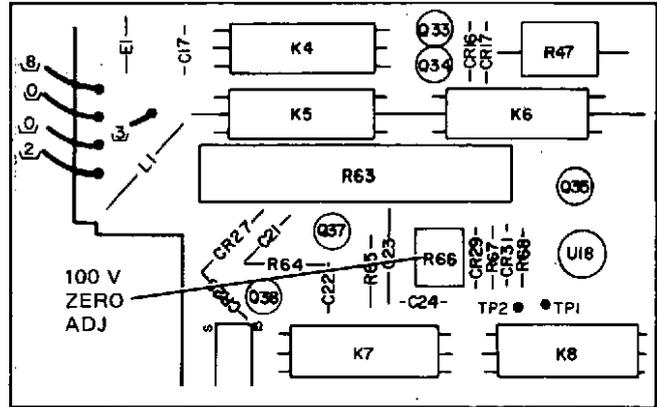

Figure 5-1. 100 Volt Zero Adjustment.
c. Set the test DVM to measure dc volts (autorange). Connect the DVM's low input to the A10 board ground test point and the high input to A10T01 (Figure 5-1).
d. Adjust A10R66 (Figure 5-1) for a DVM reading of 0 V ± 50 microvolt. Disconnect the test DVM.